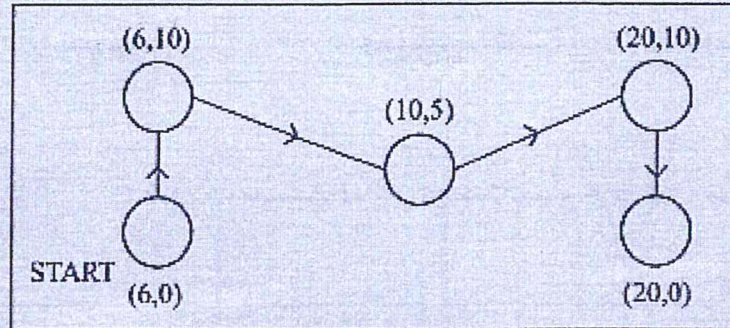

Fig. 2
- (c) **Table 4** shows commands of a robot programming. A robot is to be programmed to perform spot welding following the pattern shown in **figure 2**. The welding gun held by the robot turned ON by an output signal from channel 2. The spots are welded by pausing the gun for 0.75 seconds at each spot while the output signal is ON. The cartesian coordinates for each spot is as shown. Write a program to perform the welding task.